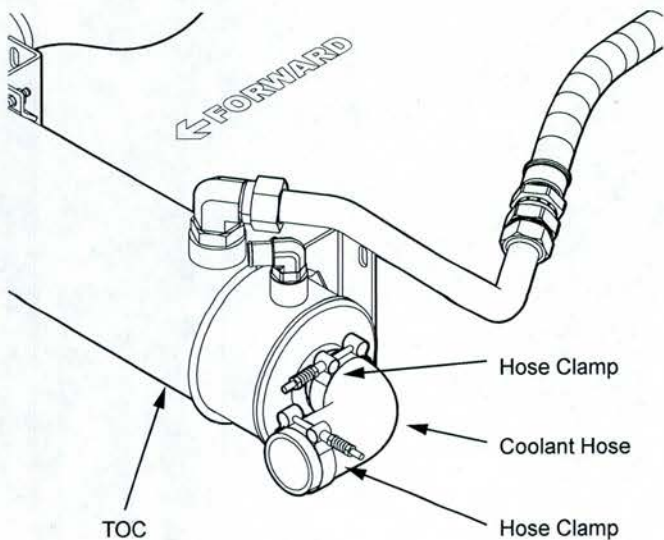

**Figure 3**
5. Using a 15-gallon (57-liter) drain pan, drain the cooling system by opening the drain valve on the radiator and the drain valve on the bottom of the engine oil cooler housing. Remove the TOC drain plug to completely drain the TOC (*see Figure 3*).
- Position a 5-gallon (19-liter) drain pan beneath the transmission fluid pipe fittings. Disconnect the 2 transmission fluid pipes from the fittings and remove the fittings from the TOC. Remove and discard the O-rings from the fittings and place the fittings aside for reinstallation. Discard the captured transmission fluid (see Figure 3).